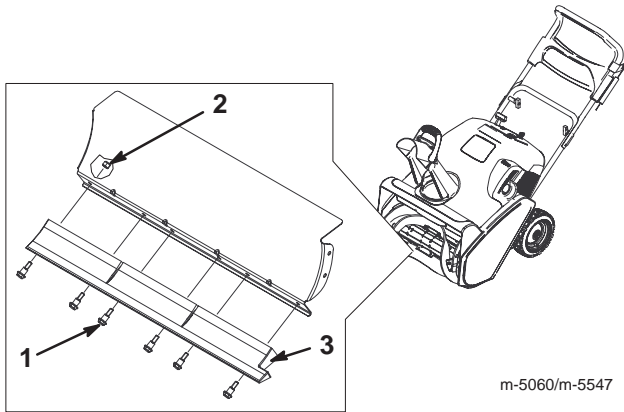

Figure 16
- Remove the 6 bolts and locknuts that hold the scraper in place (Fig. 16).